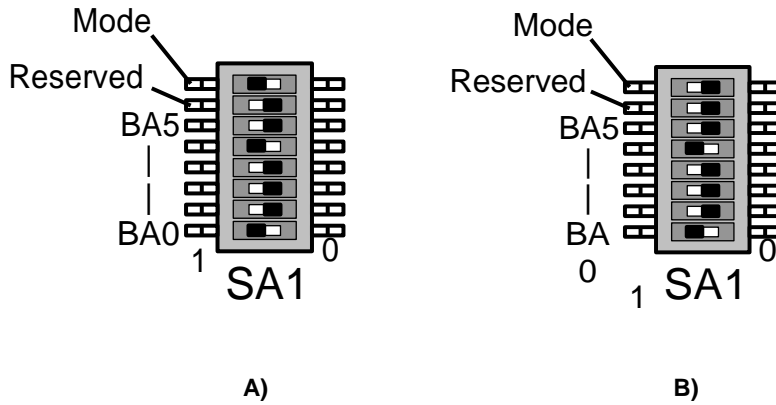

Fig. 3-1: SA1 base address setting switch
Selection of the base address on ISA bus (Figure3-1), as well as the addressing method (BASE Address Switch, Address mode) is performed with the use of SA1 switch; The switch has 8 engines. Engines BA[5:0] of SA1 switch (which are specified in the Figure as: BA0 ... BA5) are intended for setting the base address (BA) of the module or segment of address SA[9:4] in the I/O area (I/O), which will make the module available for the system. The engine of the switch 8 is responsible for the type of addressing in DIC324 with regard to the I/O address space with or without an offset.
NOTE: DELIVERIES OF DIC324 MODULE BY DEFAULT, WITH BASE ADDRESS CONFIGURATION – A110 (COMPLIES WITH FIG. 3-1 B)